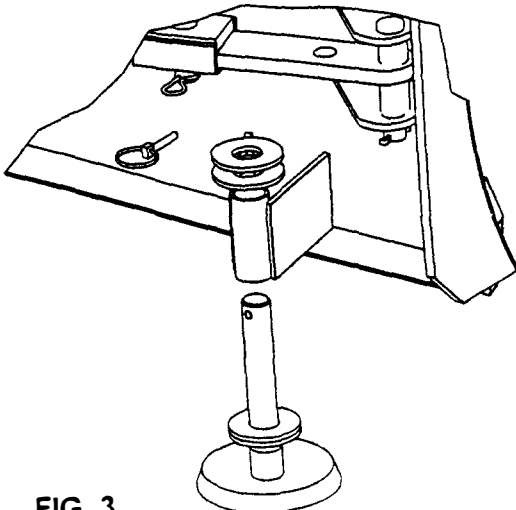

FIG. 3
2. Adjust the skid shoe height. Lift the blade up and place blocks under the cutting edge and lower the blade to the blocks. To lower the cutting edge, remove the pin and install washers on the top of the skid shoe shaft until desired cutting edge height is obtained. Reinstall the pin. To raise the cutting edge, remove pin and install washers on the bottom of the skid shoe shaft between the skid shoe and the mount until the desired cutting edge height is obtained. Reinstall the pin. (FIG. 3)